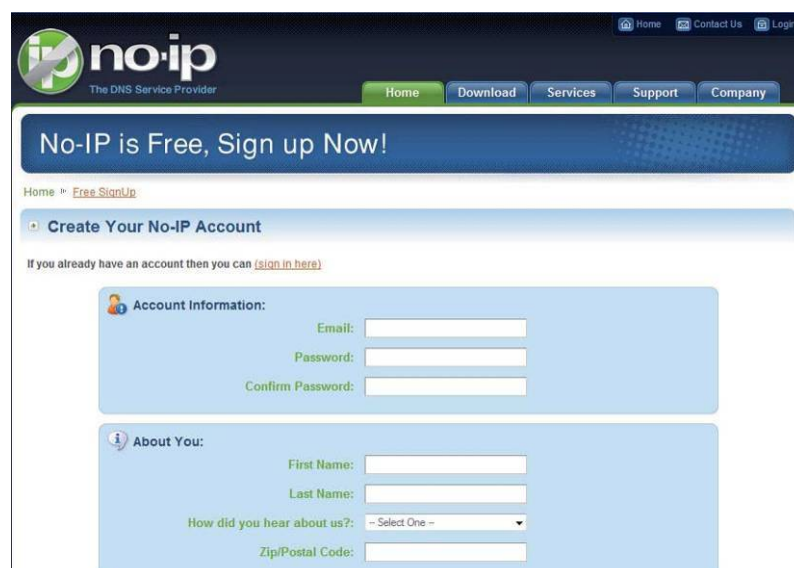

Figure 14-3
2. Left click mouse on the "Create Account" button, account Information interface is shown as in Figure 14-3.